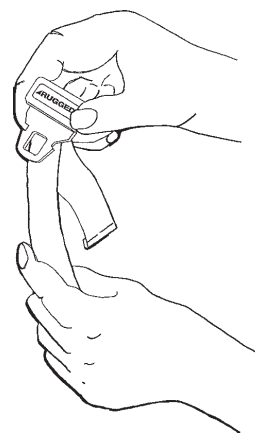

Figure 40.2: Lengthening the Safety Restraint
Wrap the strap around the cot frame and back through the loop on the end of the strap as shown in Figures 40.2 and 40.3. The arrows indicate alternate attachment areas.
- **To lengthen the restraint**, grasp the buckle latch plate, turn it at an angle to the webbing, then pull it out (Figure 40.2). A hemmed tab at the end of the webbing prevents the latch plate from coming off of the strap.